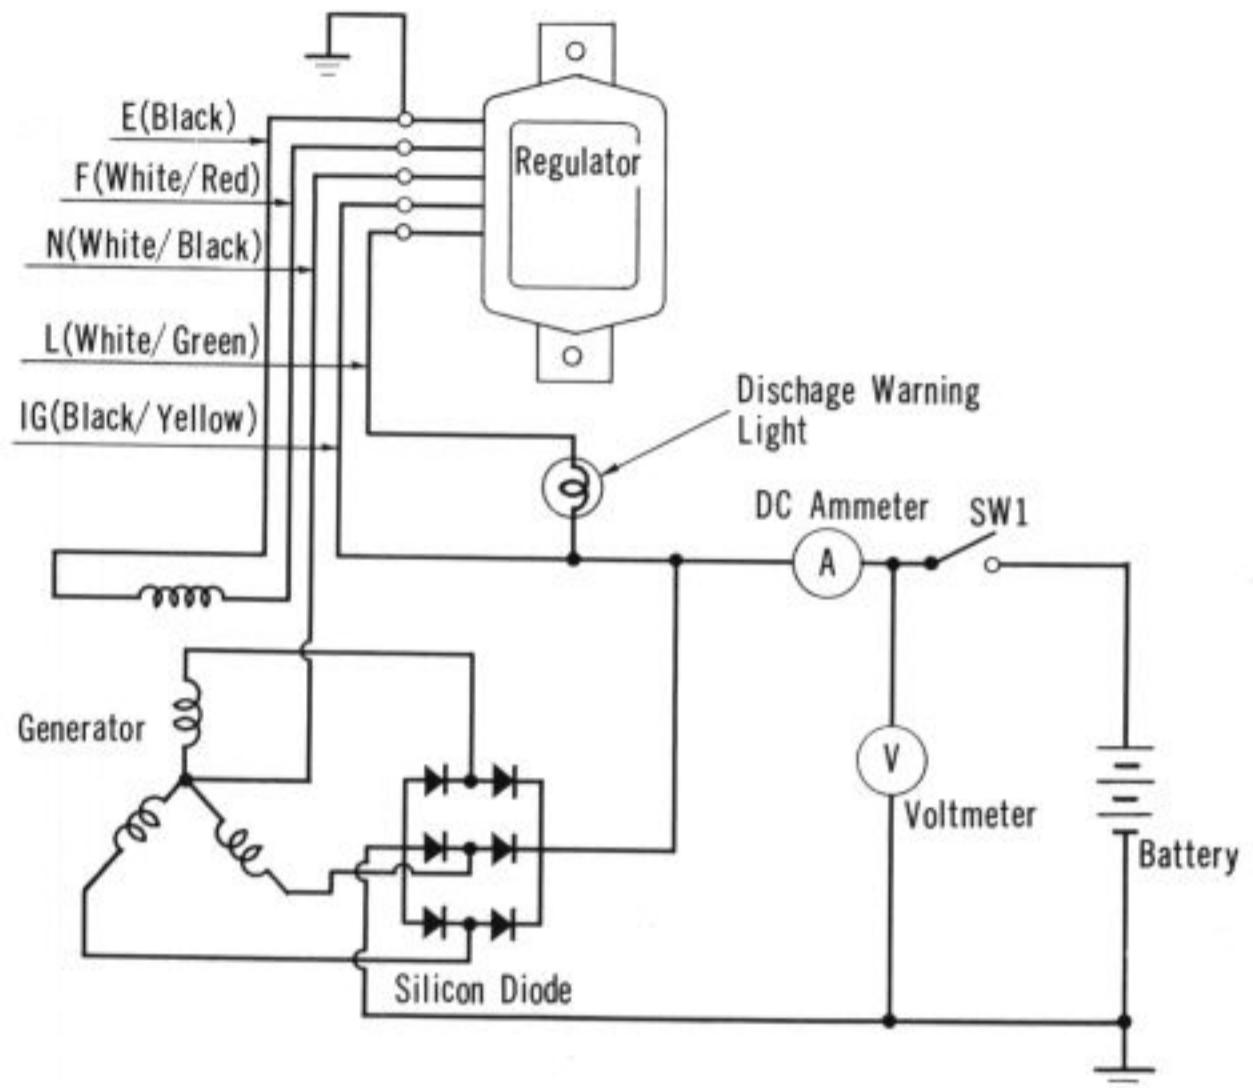

Fig. 17A-78
3. Prepare a DC voltmeter, ammeter, and connect them as illustrated in Fig. 17A-78